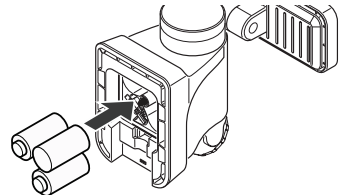

Figure 6
5. Install three, 1.5V “C” batteries (not included) into the battery compartment (see Figure 6). Make sure the polarity of the batteries is correct. Replace the battery compartment cover.